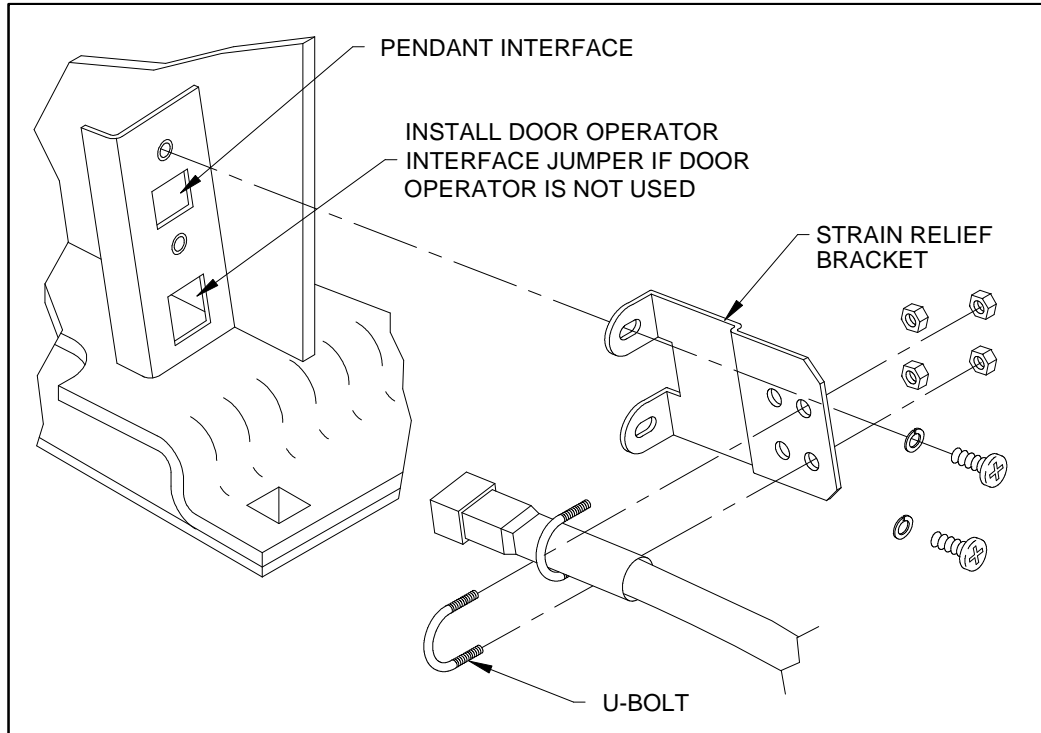

FIGURE 2-11: CONTROL INTERFACE AND STRAIN RELIEF KIT
- f. Refer to **Figure 2-11**. Connect appropriate RICON lift control interface to lift and secure control cable to vehicle floor with supplied cable clamp.